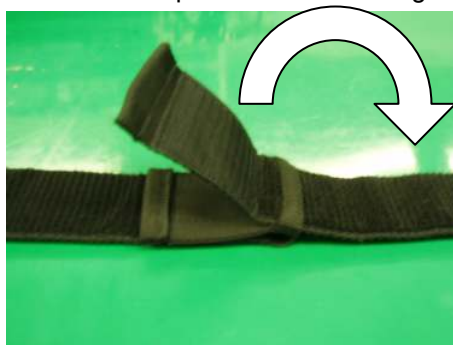

Figure 4.13
3. Close the hook and loop fastener of the long belt. (Refer to figure 4.13)